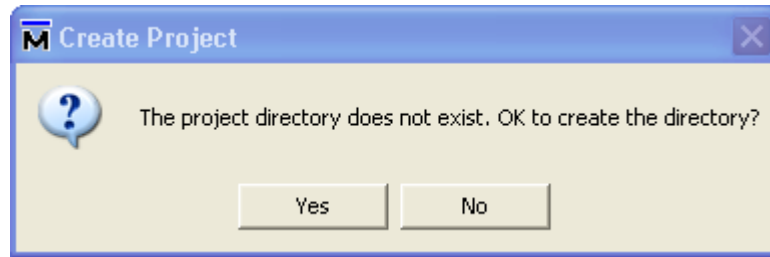

Figure 32. Confirm the establishment of a new directory
3. Then the dialog window shown as Figure 32 will appear, which indicates that the project directory does not exist. Click on the **OK** button to create the directory for a new project.